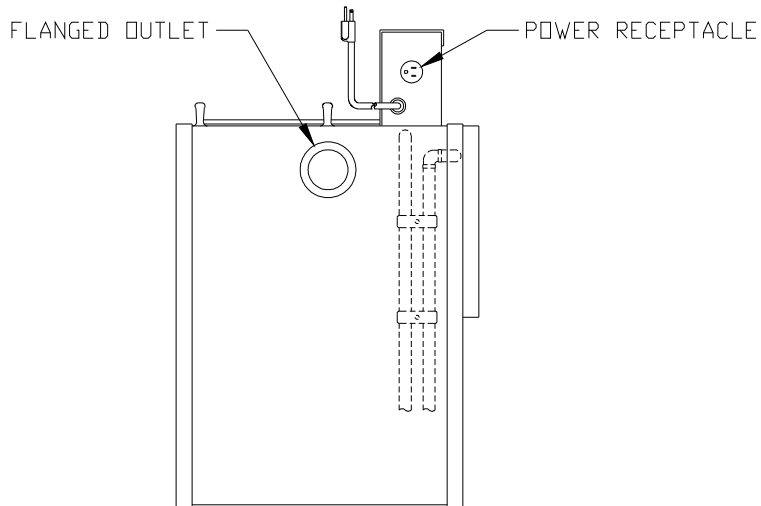
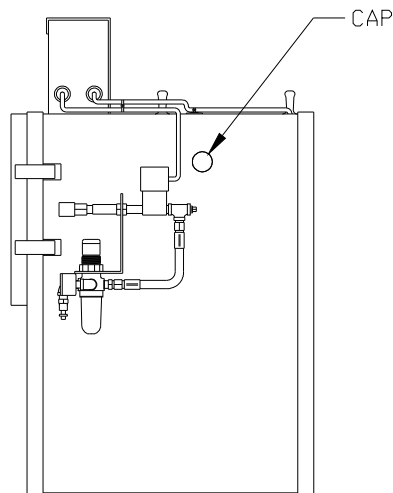

Figure 1 - Left Side of BBO Cabinet
Figure 2 - Right Side of BBO Cabinet
Refer to Figure 1, Figure 2, and the assembly drawings on the following pages.
Step 3: Place the cap in the 1 ¼" diameter hole in the right side of the cabinet as shown in Figure 2.
Step 4: Install the dust bag (Dust Bag Assembly Item 2) on the flanged outlet (Cabinet Assembly Item 20) as shown in Figure 1 on the left side of the cabinet using the adjustable clamp (Dust Bag Assembly Item 1). Make sure all four holes in the flanged outlet are completely covered or the dust bag will not operate properly. Place the clamp (Dust Bag Assembly Item 3) on the bottom of the dust bag.
Step 3: Remove the dust collector lid assembly (Dust Collector Assembly Item 7) and remove any parts which were stored inside the drum for shipping. Replace the lid and apply pressure to each latch until it snaps tightly into place. Slip one end of the dust hose (Dust Collector Assembly Item 14) into the dust collector port on the top and slip the other end of the dust hose into the flanged outlet (Cabinet Assembly Item 20) as shown in Figure 1 on the left side of the cabinet.
Step 4: Plug the dust collector power cord into the power receptacle on the side of the BBO electrical box located at the top of the cabinet as shown in Figure 1. The dust collector and cabinet will now be controlled by the timer on the control panel.